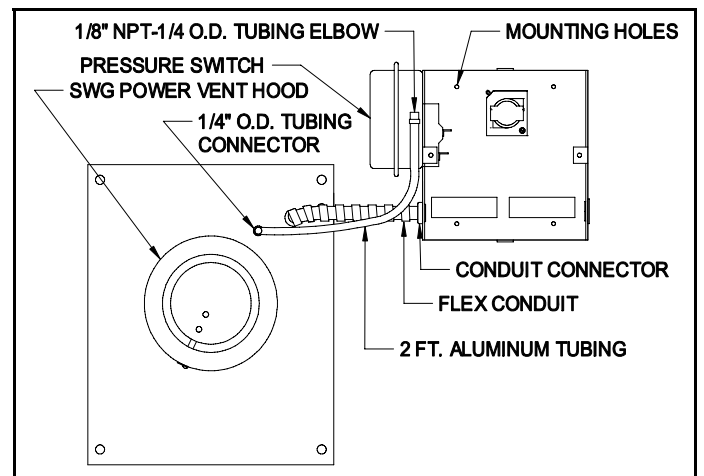

Figure 3
2. Fasten the flexible conduit from the SWG Venter into the conduit connector. Mount the CK-41F junction box or installer supplied junction box onto the wall or floor joist without straining the flexible conduit. Fasten the CK-41F junction box through the four dimpled locations on the base of the box. (See Fig. 3)
1. Attach the 1/4 inch tubing connector to the pressure tube on the SWG Venter. (See Figure 3)